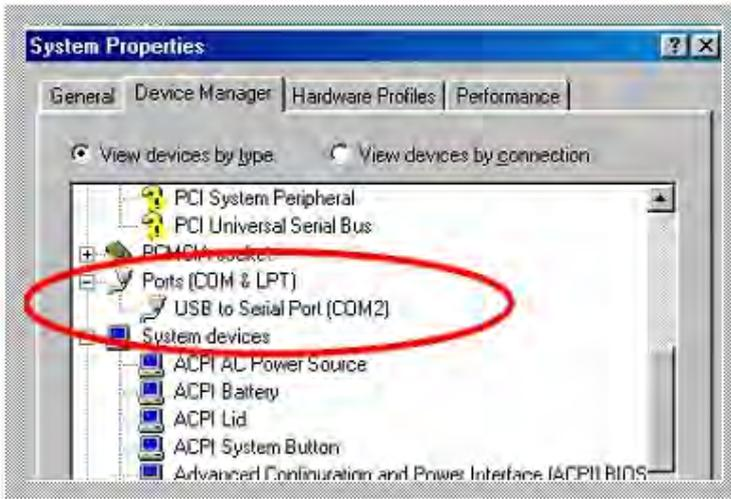

Fig.3
5. After driver installation, please follow the bellowing process to verify whether the device was properly installed. Click Start – Setting -- Control panel -- double click system icon – Hardware Device Manager -- Double click on ports (COM&LPT) (see Figure 3)